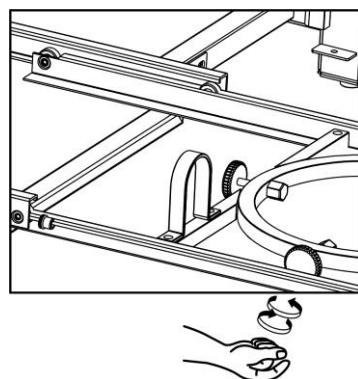

Figure 7
6. Tighten the threaded knobs (G) found on the tank tray (Figure 7) so that the LP tank cannot move from side to side. Do not remove the plastic cap from the end of the threaded section.